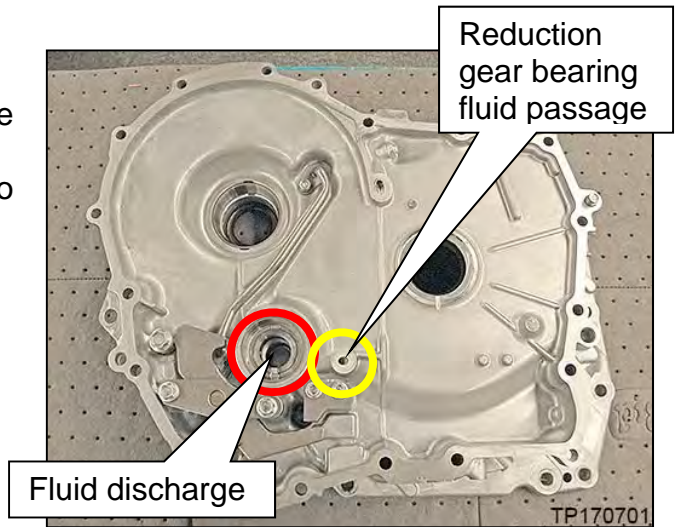

Figure 117
- To avoid the risk of minor personal injury, do not face the passage indicated in red of Figure 117 when cleaning passages as brake cleaner will exit the passage.